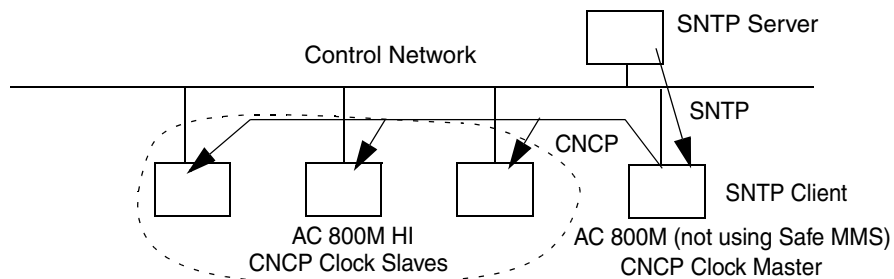

Figure 68. Using CNCP with global time for AC 800M HI controllers
1. Let one AC 800M controller, which is not using Safe Peer-to-Peer MMS, synchronize from an external time source as in External Time Source on page 150 and at the same time be CNCP master for the AC 800M HI controllers that use Safe Peer-to-Peer MMS, see Figure 68 on page 170.